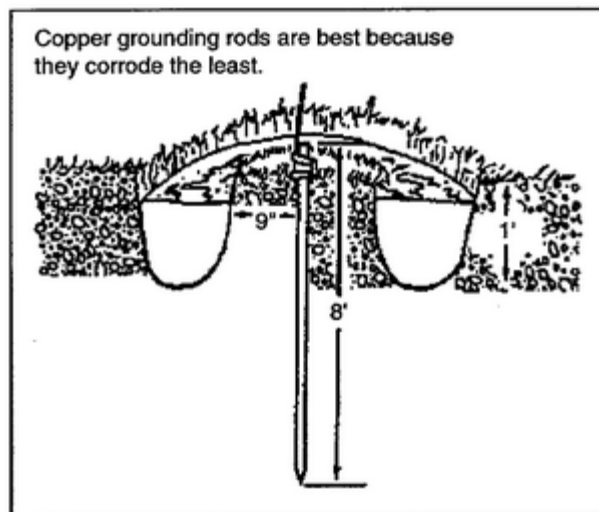

Figure 1-16. Trench filled with rock salt
- Filling the trench with 50 to 100 pounds of rock salt (copper sulfate or magnesium sulfate may also be used) and then filling the trench with water. As the water goes through the salt into the ground, resistance should be lowered. Natural rainfall will continue the process, but you must replace the rock salt every two years (Figure 1-16).